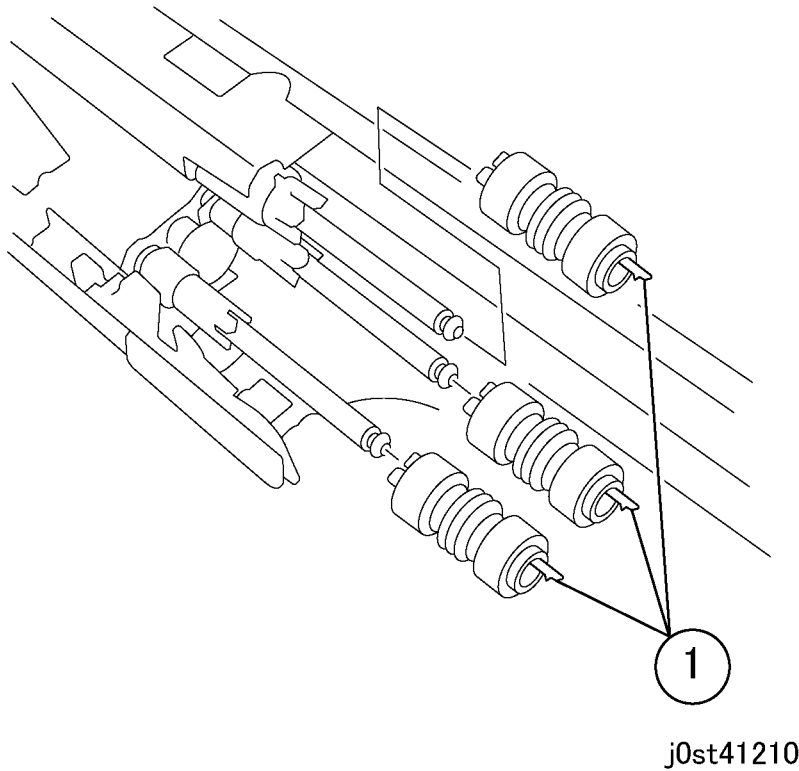

Figure 2 Removing the Feed/Retard/Nudger Roll (j0st41210)
4. Remove the Feed/Retard/Nudger Roll. (Figure 2)